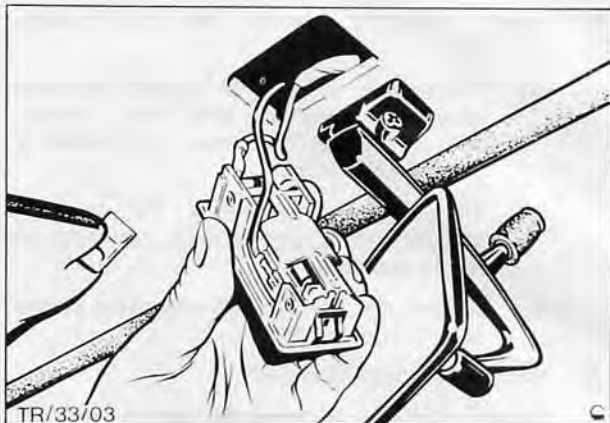

Fig. 49. Interior lamp removal
3. Prise out lamp assembly, disconnect loom and detach bulb, Fig. 49.